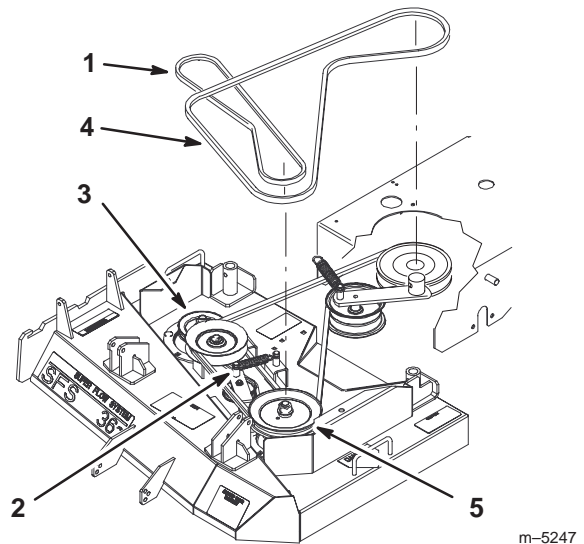

Figure 56
5. Disconnect the idler arm spring to relieve tension on the idler arm and idler pulley, then remove the worn deck belt (Fig. 56).
6. Install the new deck belt around the outward spindle pulley, the idler pulley, and in the lower groove of the double spindle pulley (Fig. 56).
7. Reconnect the idler arm spring (Fig. 56).
8. Adjust deck belt guide an 1/8 in. from belt (Fig. 56).